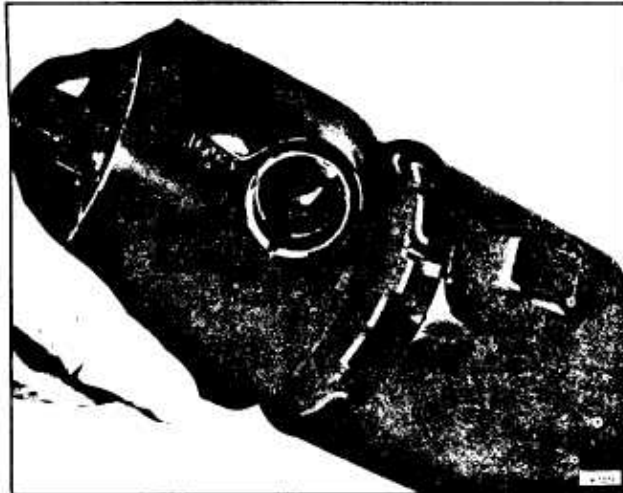

Figure 74-Removing Upper Housing Assembly
15. Remove the four screws attaching the upper housing to the jacket. Remove the upper housing assembly. (figure 74).